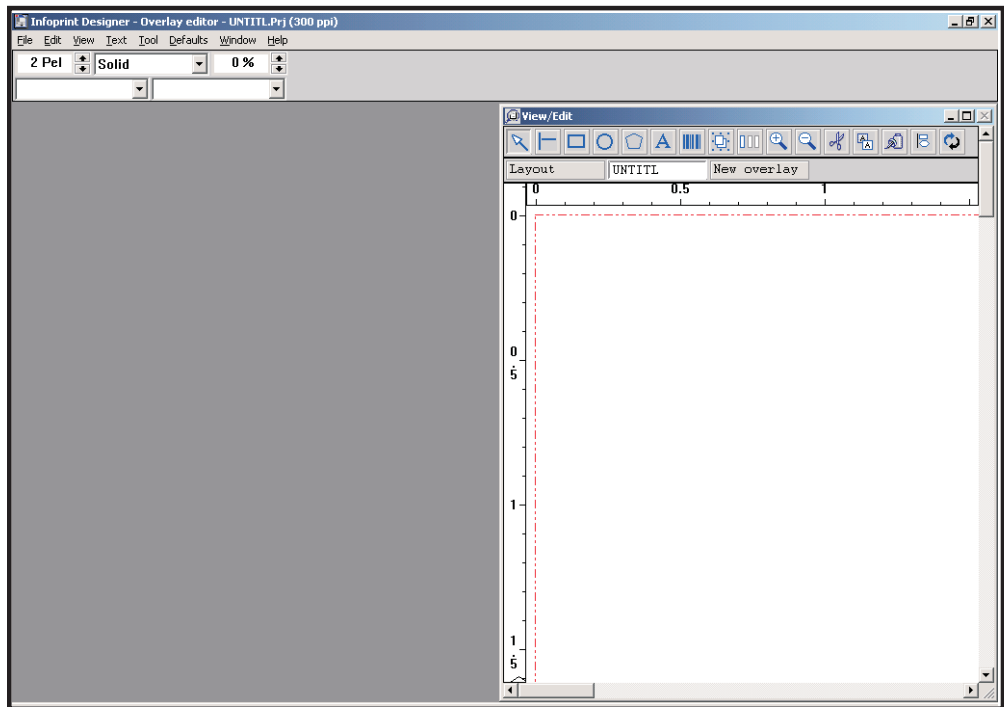

Figure 123. New Project
1. When you start Infoprint Designer, it opens with the Overlay Editor started so you can begin creating an overlay. You will draw your overlay in the **View/Edit** window, shown in Figure 123.